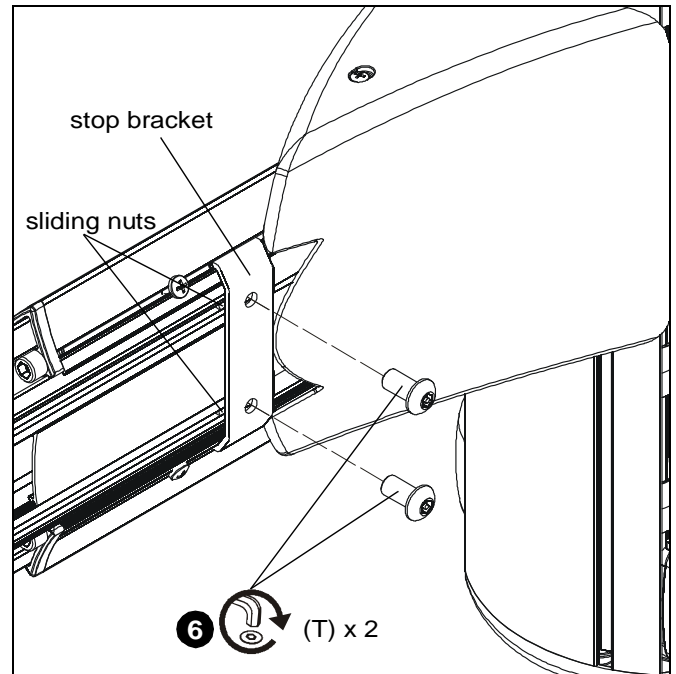

Figure 45
6. Install two 1/4-20 x 1/2" button head security screws (T) through holes in stop bracket and into holes in sliding nuts. (See Figure 45)